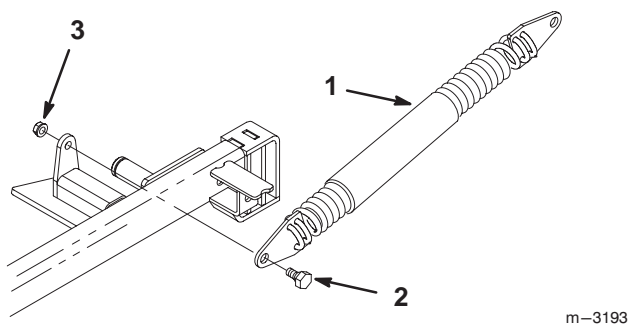

Figure 9
- Secure spring end plate assembly to carrier frame with 3/8 x 7/8 in. (23 mm) shoulder bolt and 3/8 in. locknut (Fig. 9).